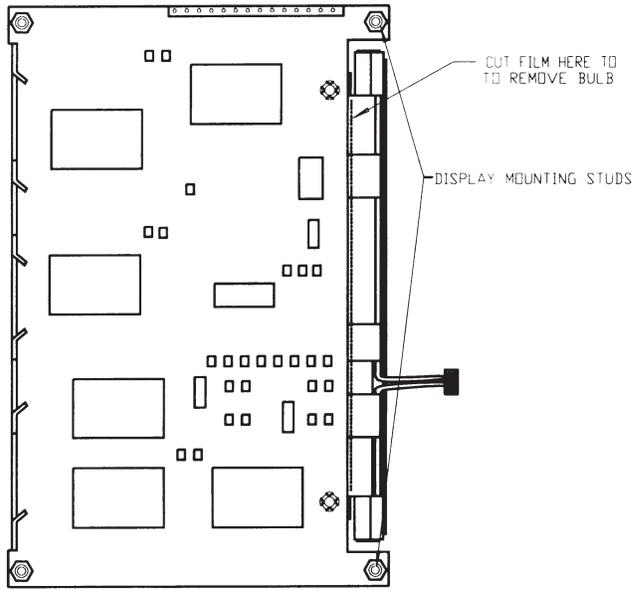

FIGURE 2. LAMP REMOVAL
6. If a hinged display access panel is installed on the unit, disconnect the backlight lead and open the access panel. With a sharp X-ACTO or razor knife, **carefully** cut through the backlight film and tape adjacent to the edge of the circuit board as shown (see figure 2). Remove the backlight from the display. Next, cut the remaining film from the bottom of the metal lamp cavity and remove the film.